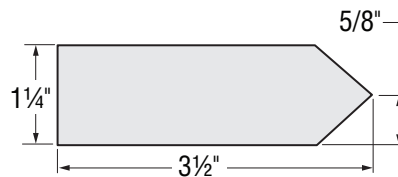

Figure 1-5 Installation guide pattern (illustration not to scale)
1. Power cord anchor will be mounted on the top carriage bar. To properly position the anchor, make an installation guide out of cardboard or plastic using the pattern shown See Figure 1-5.